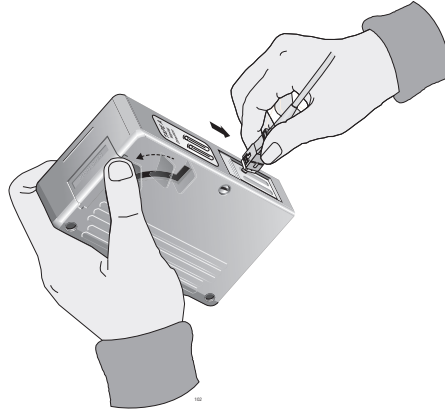

Figure 29. Rubbing the Ferrule Tip on the Cleaning Surface
1. With one hand, hold the cartridge cleaner and push the lever on the cleaning cartridge in the direction of the arrow to expose the cleaning surface, as shown in Figure 29 on page 55.
2. Place the ferrule tip on the exposed cleaning surface and rub the ferrule in a downward direction, as shown in Figure 29 on page 55.